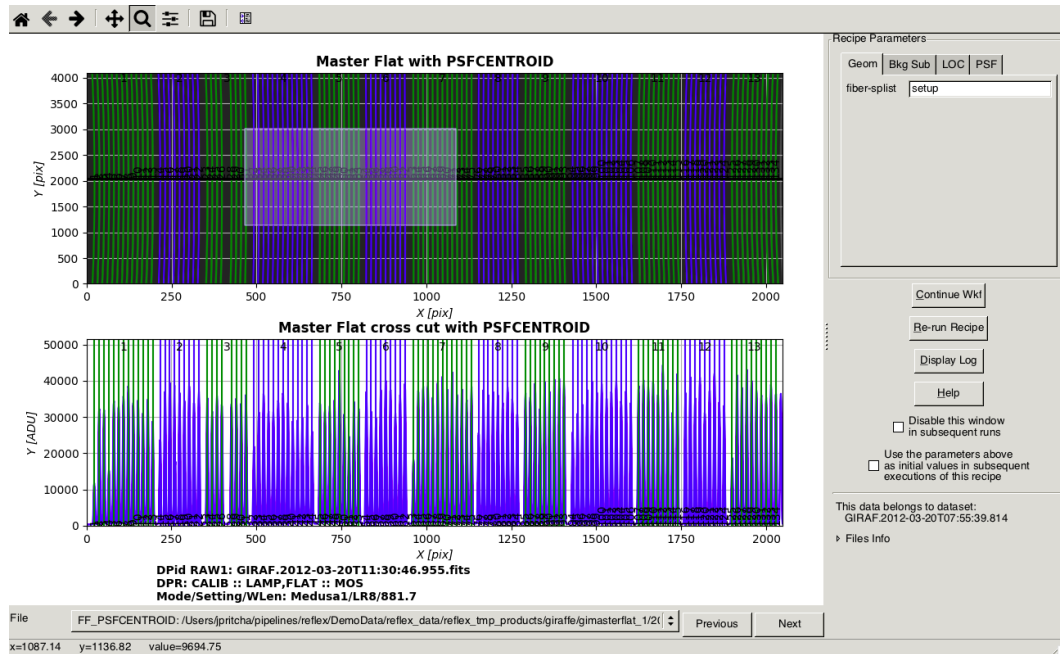
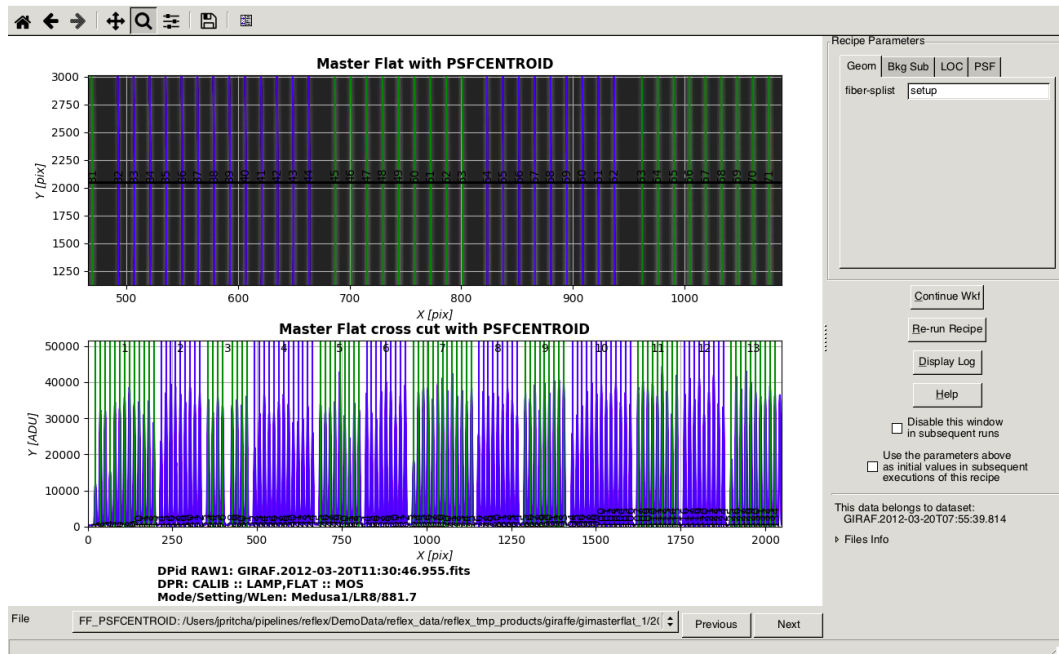

Figure 3.5: Zooming in on the displayed MasterFlat.
Figure 3.6: The zoomed display of the MasterFlat.
10. **Interact with the displays:** click on the Matplotlib Zoom button,  ¹⁰ to enter Zoom mode. Now click and hold the mouse button while over the image or cross-cut display subplots and then drag the mouse to define a rectangular region (see figure 3.5) which will be redisplayed zoomed into the respective display window (see figure 3.6).